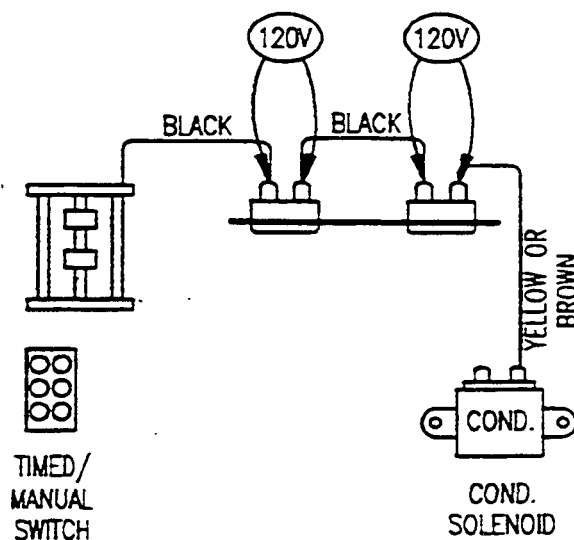

Figure 6-42. High Limit Switch Assembly
1. Refer to Figure 6-42. Set the voltmeter to the 250 VAC scale.